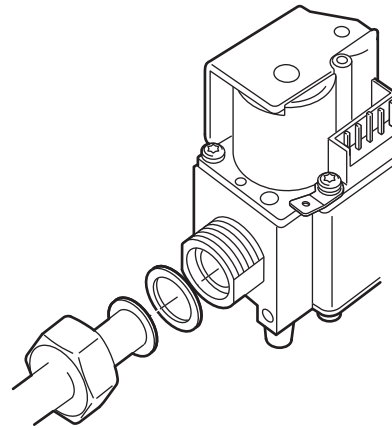

Fig. 4. External thread connection with nut and flat sealing ring
- With 1/2" nut and flat sealing ring for pipe 14 mm (fig. 4)
- With 1/2" nut and flat sealing ring for pipe 15 mm (fig. 4)
- ⑤ With $\frac{3}{4}$ " nut and flat sealing ring for pipe 15 mm (fig. 4.)
- ⑥ With $\frac{3}{4}$ " nut and flat sealing ring for pipe 18 mm (fig. 4.)